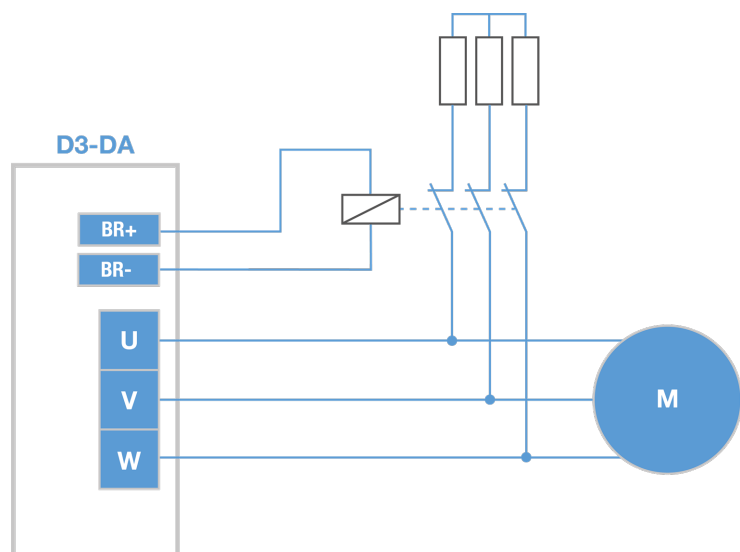

Fig. 6.16: Brake contactor
A three-phase load resistor can be connected directly to the motor terminals via a braking contactor in order to brake a motor quickly in case of a power failure: see Fig. 6.16: Brake contactor. The brake contactor is "normally closed" (nc) and is actuated by the output function **P 2318[0] - MPRO\_OUTPUT\_FS\_MOTBRK = RELAY (6)**. The resistors are defined on the basis of the maximum possible speed and the permissible currents.